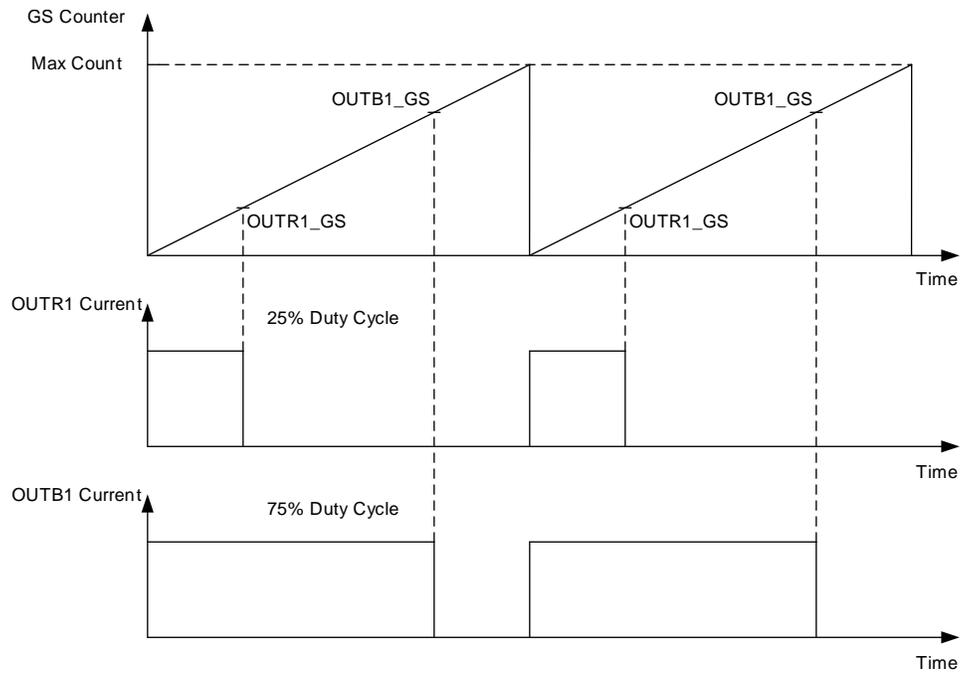

**Figure 14. Brightness Control and Dot Correction Block Diagram**
The TLC6C5724-Q1 device implements an 8-bit group brightness control (BC) and 7-bit individual dot correction (DC) to calibrate the output current. The 24 output channels are divided into three groups: OUTRn, OUTGn, and OUTBn. Each group contains 8 output channels. There are two configurable ranges for the DC value of each group. One is the low DC range with output current from 0 to 66.7%  $I_{(OUT)max}$ . The other is the high DC range with output current from 33.3%  $I_{(OUT)max}$  to 100%  $I_{(OUT)max}$ . The IREF resistor, BC, DC, and DC range together determine the channel output current, as shown in Figure 14. Equation 6 and Equation 7 are the detailed output current calculation formulas.